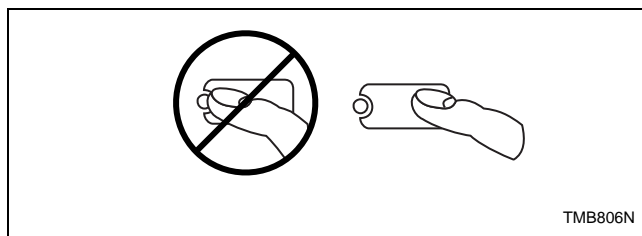

Figure 36
**NOTE:** Do not press directly on lights or the center of pad. For proper selection, press on pad slightly to the right of center. Refer to *Figure 36*.